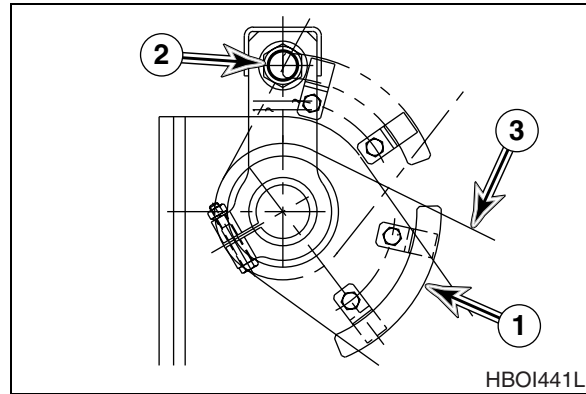

Figure 37
Placing bucket lever in "Boom Raise Detent" position will lock bucket lever in raise boom position. Boom will raise until trip plate (1, Figure 37) makes contact with bucket height limit switch (2). When limit switch is tripped, boom will stop raising and bucket lever will automatically be returned to "NEUTRAL" position. Trip plate can be adjusted to control maximum height that boom can be raised.
Trip plate (1, Figure 37) must always be set to contact limit switch (2) before boom cylinders reach maximum extension. Maximum extension causes pump to force fluid over relief valve.